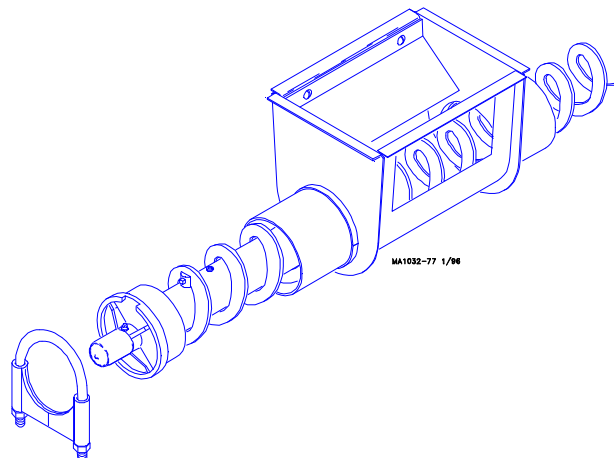

Figure 16. Model 108 Anchor and Bearing Installation.
6. Figure 16 shows the proper assembly of the Model 108 boot components. Insert the Anchor Shaft into the auger until the auger touches the anchor flange. The auger must be threaded onto the Boot Anchor Assembly, through the clamp pin. Use a 5/16" open-end wrench to tighten the clamp pin setscrew on the auger.